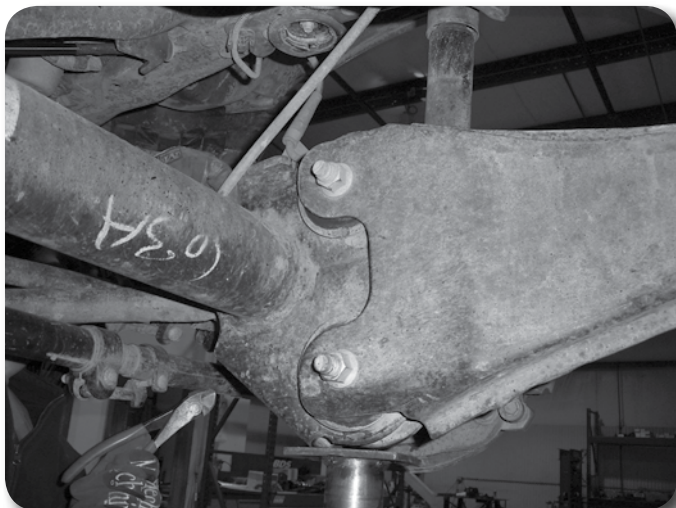

Figure 10
17. Locate and loosen the four radius arm mounting bolts at the axle. **Figure 10** Once again make sure that the axle is well supported by a jack.